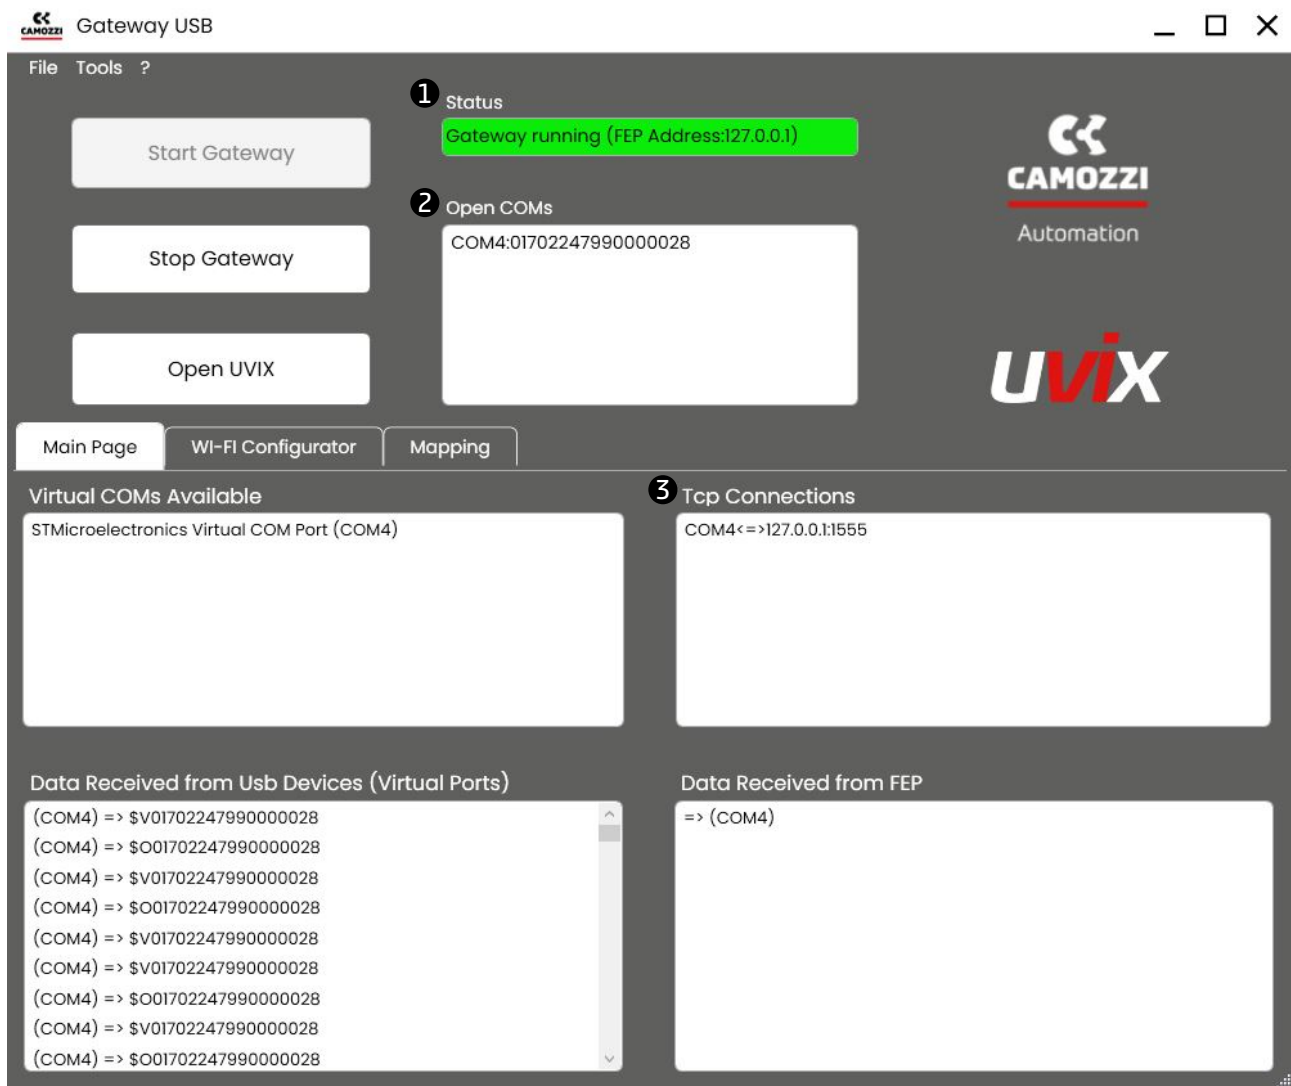

Figure 8.5: Checking the USB Gateway Communication Status
1. If the device communicates via USB, check its status from the USB Gateway as shown in Figure 8.5.